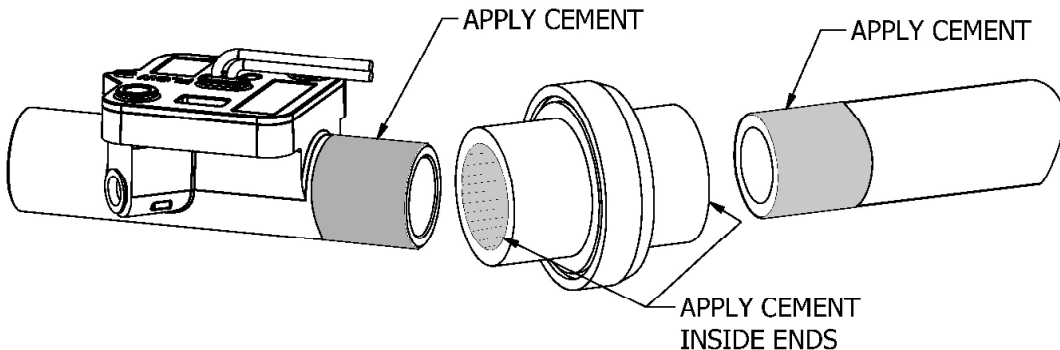

Figure 6
3. Following the PVC cement manufacturer's instructions, apply PVC cement to a meter end and fitting and quickly assemble while the cement is fluid. Hold the cemented parts together for at least 30 seconds. Repeat for other end of meter. (See Figure 6)
4. Attach meter with attached fittings to pipe ends using the same "cement and hold" process used above. (see Figure 6)